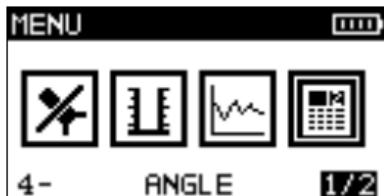
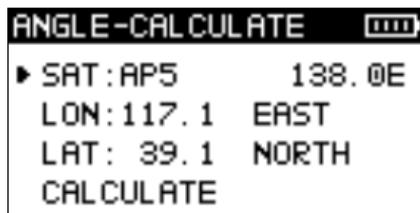
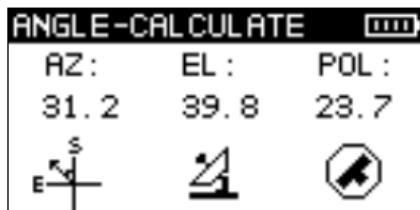

Figure 7
Figure 8
Figure 9
Press  to main menu, press  to select Angle icon as Figure 7, then  enter into Figure 8. Input the current longitude and latitude, the meter will calculate the Azimuth(AZ)、Elevation (EL)、Polarization (POL), refer to figure 9